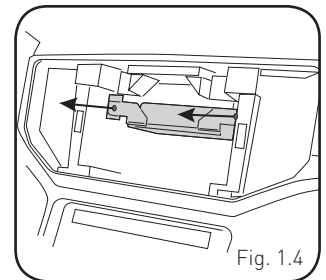

Fig. 1.4
4. To make room for the aftermarket radio you must relocate the telematics module. Remove the two (2) T25 Torx screws securing the telematics module bracket. Remove from dash. (Fig. 1.4)